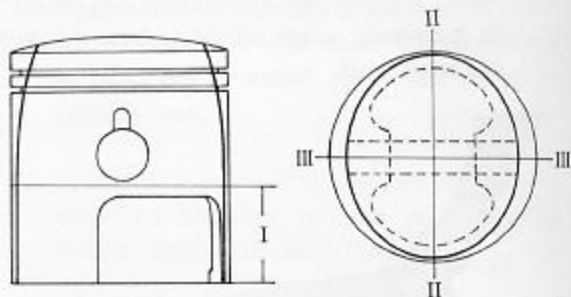

Fig. 3-35 Piston's out-of-round & tapering
- (2) As shown in Fig. 3-35, piston has a taper in longitudinal direction and has an elliptic cross section. During engine operation, the piston is heated and expands. As the wall thickness increases, so does the expansion rate of piston. This taper is needed to obtain a true cylindrical form with roundness during engine operation, by machining as shown in the drawing.